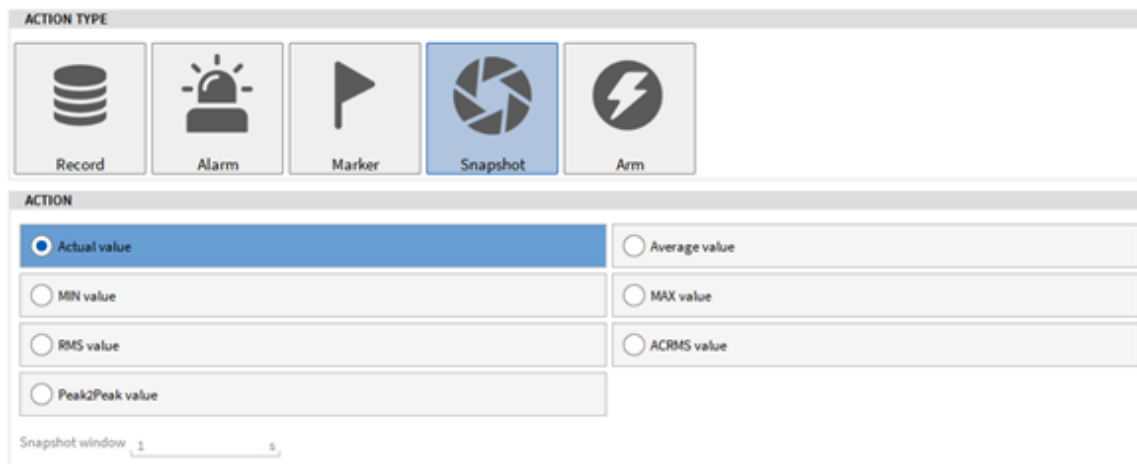
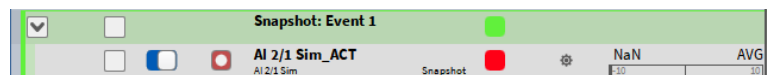

Fig. 9.20: Trigger - Snapshot Action
Fig. 9.21: Snapshot channel in the Channel List
The Snapshot action can be used to query the Actual Value, Average, MIN, MAX, RMS, ACRMS or Peak2Peak value of one or several channels that may be selected on the right-hand side of the menu (see ① in Fig. 9.6) and copy this value to a new channel. This channel is added to the Channel List and can be found in the *Snapshot: Event x* section (see Fig. 9.21). If a statistical value is selected, the calculation time interval can be defined in the *Snapshot window* input field (see Fig. 9.20). The time interval is applied prior to the activation of the event.